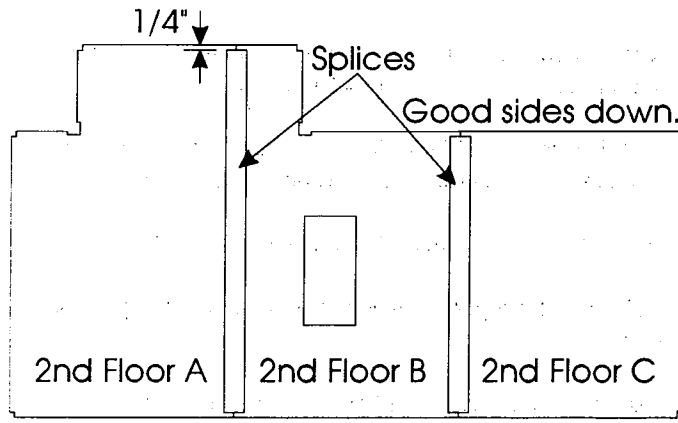

Figure 12
3. Turn floor over, run a bead of glue in the junction between floors. Splice together using 2nd Floor Left and Right splices. Be sure to center splices leaving 1/4" from edge of splice to edge of floor. Fig. 12.